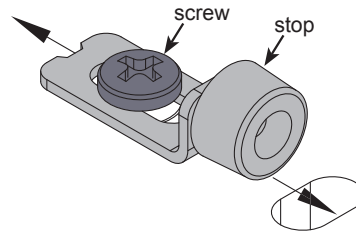

Figure 9
1. To adjust, loosen the Phillips screw slightly with a screwdriver. **Figure 9.**